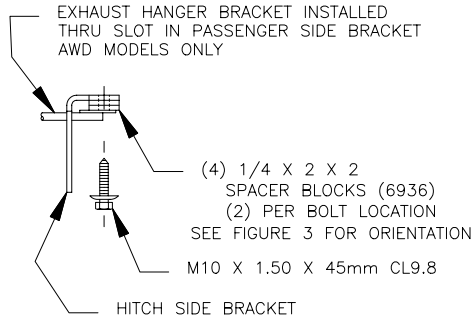

FIGURE 2
NOTE: ON AWD MODELS, IT WILL BE NECESSARY TO PASS EXHAUST HANGER THRU 3" LONG SLOT IN SIDE BRACKET AND USE (2) 1/4" SPACER BLOCKS, AS SHOWN IN FIGURE 2 AND FIGURE 3, TO REATTACH EXHAUST HANGER BRACKET.